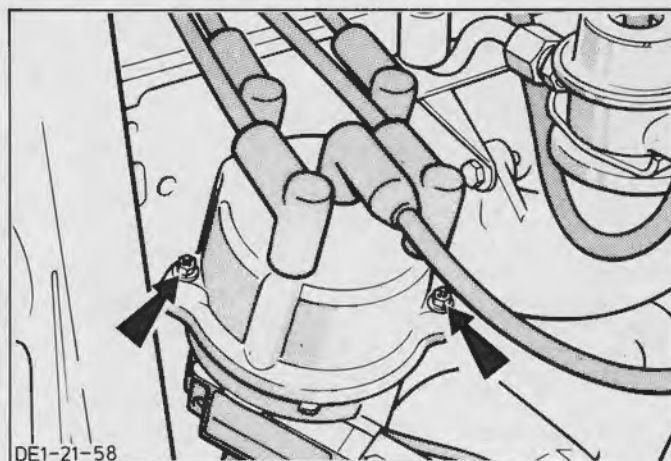

Fig.153. Strømfordelerdækslets monteringskruer (2,0 ltr. EFI motor)
24. Monter strømfordelerdækslet, Fig.153.